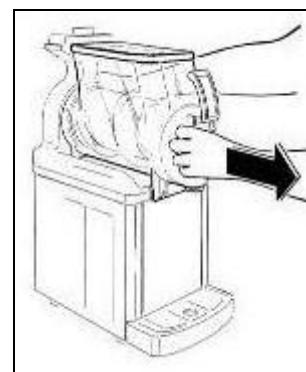

Fig. 15
- Pull the bowl outward, as shown, to completely remove it from its seat (fig.15).